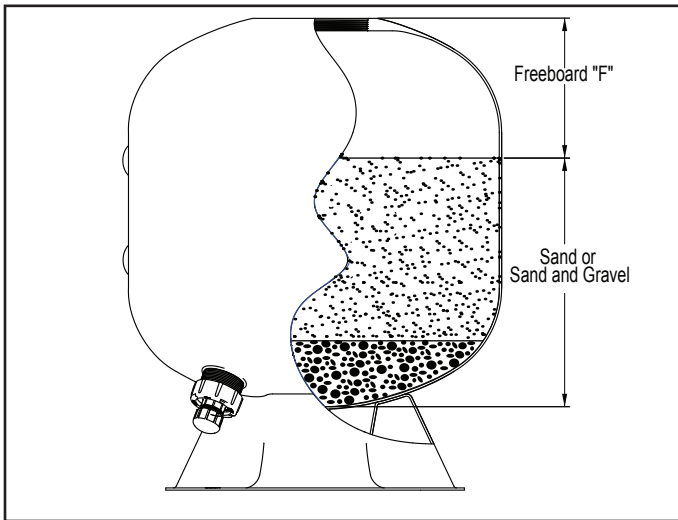

Figure 10. Sand Level
2. Fill the filter with Zeobrite to the level shown in Table 3. The weight of the material shown is approximate. See Figure 10 for the illustration of "Freeboard".
5. If used, pour pea gravel SLOWLY into the filter first. Level the surface of the gravel, and then pour in the appropriate amount of sand to the level indicated in Table 2. If using sand only, pour it into the filter SLOWLY to the level indicated in Table 2. Be careful not to dislodge the vent tubing from its fitting in the piping while adding filter media. Refer to Figure 10.